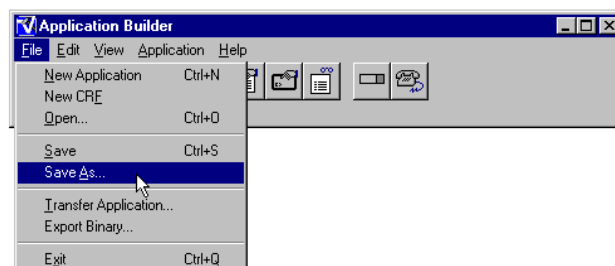

Figure 3-5 File Menu - Save As...
5. Choose **Save As...** from the **File** menu (Figure 3-5).